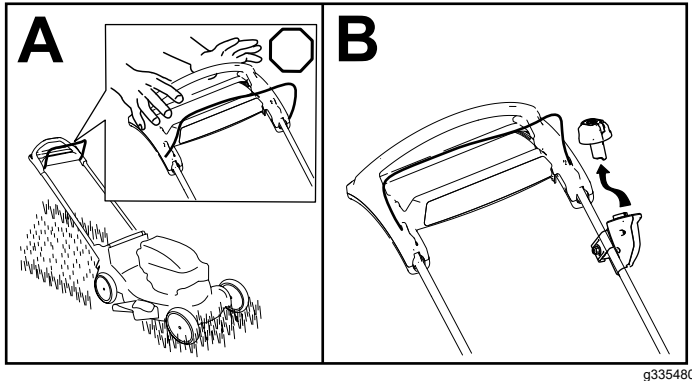

Figure 15
1. Release the blade-control bar (A of Figure 15).
2. Remove the electric-start button from the electric-starter switch (B of Figure 15).